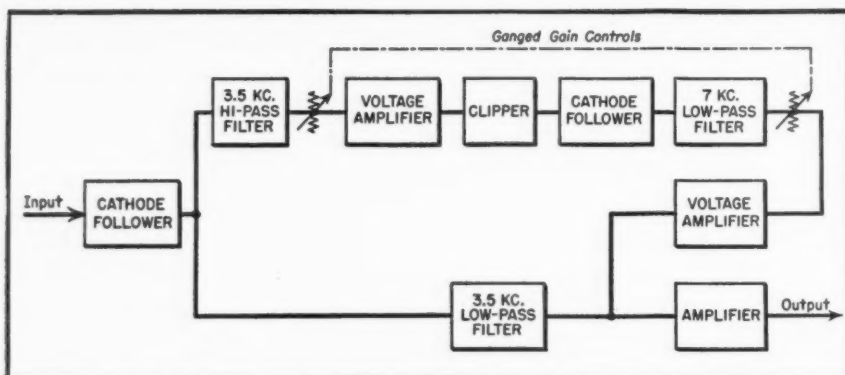

Fig. 1. Block diagram of the first noise suppressor setup, tried experimentally.
Incorporation of the above requirements in a noise suppressor become the problem and many of them do not lend themselves to an easy solution. Fig. 1 shows a block diagram of the first experimental suppressor which performed sufficiently well to encourage further investigation with this approach.
Fig. 1. The two basic limits on recording volume level. (A) Amplitude of excursion and (B) angle of excursion. Excessive angles cause improper tracking, poor record life.